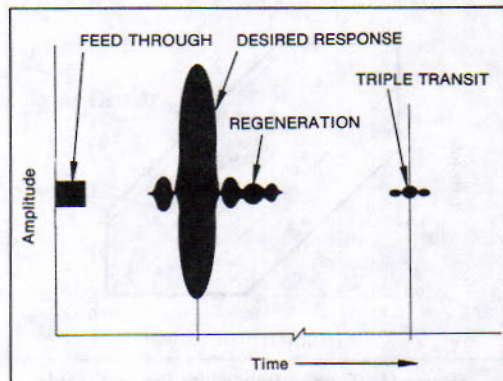

Figure 10.
- a. Feed-Through — Since electro-magnetic waves travel at 100,000 times the speed of surface acoustic waves, precursor signals will be present in the SAW filter. By careful design and mechanical construction of filters or delay lines, these signals can generally be reduced to 40 dB or more below the desired response. See figure 10.